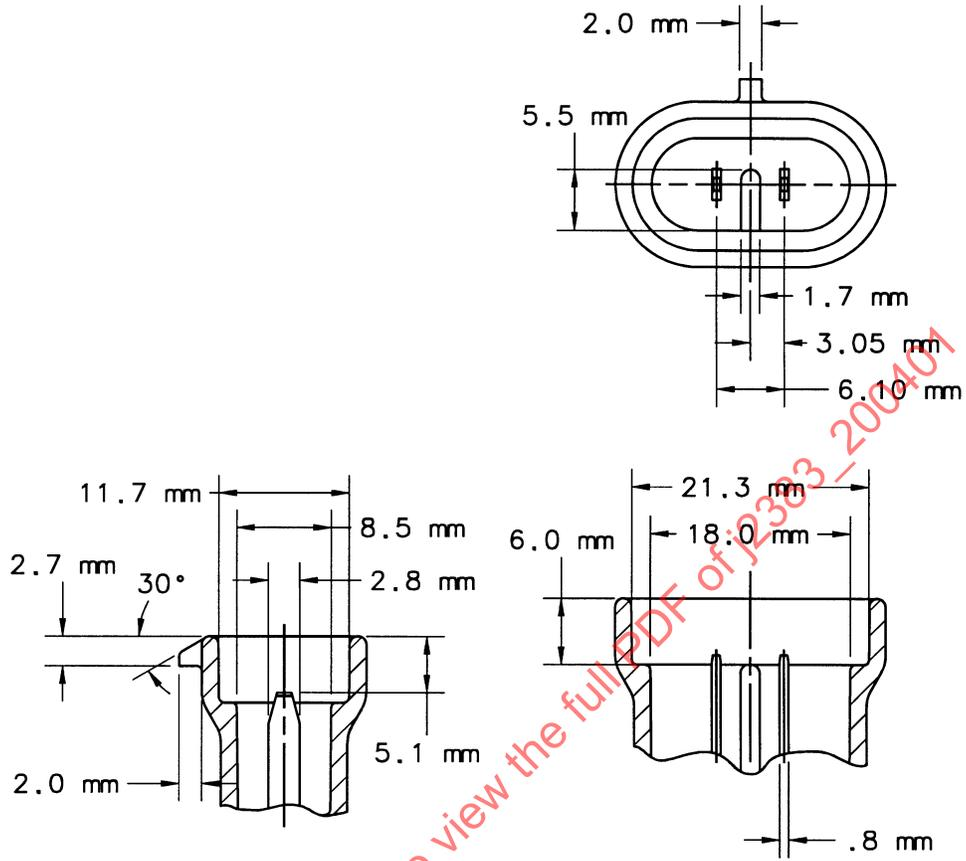

FIGURE 3- HEATER CONNECTOR DESIGN
4.6 **Electric Heater Connections**—Connection will be via a sealed and locked 2-pin connector. The male connector will be on the dryer and conform to the design in Figure 3. Vehicle wiring will provide slack and strain relief sufficient to prevent connector seal distortion. All wiring connections (i.e., splices) must be waterproofed. Power lead will be ON when the vehicle ignition is on and OFF when the ignition is off. Ground lead must be connected to the vehicle ground system, not grounded to the air dryer body.